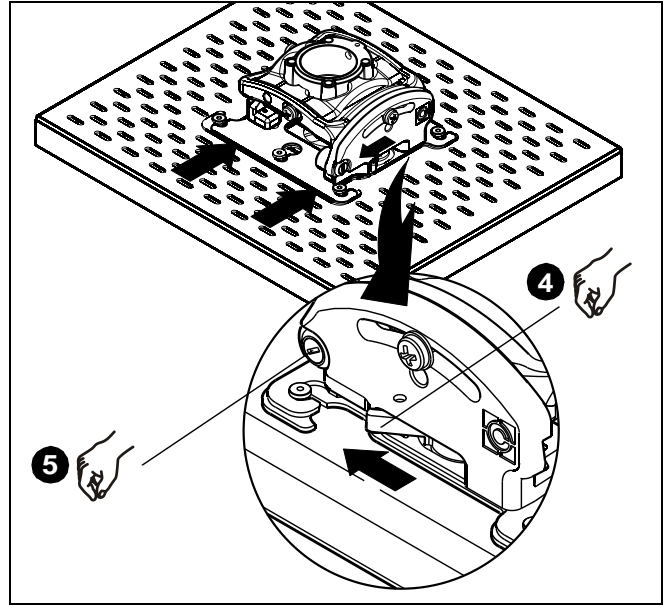

Figure 7
- Move locking lever to "Locked" position. (See Figure 7)
- Insert key into lock and turn to secure projector to mount. (See Figure 7)